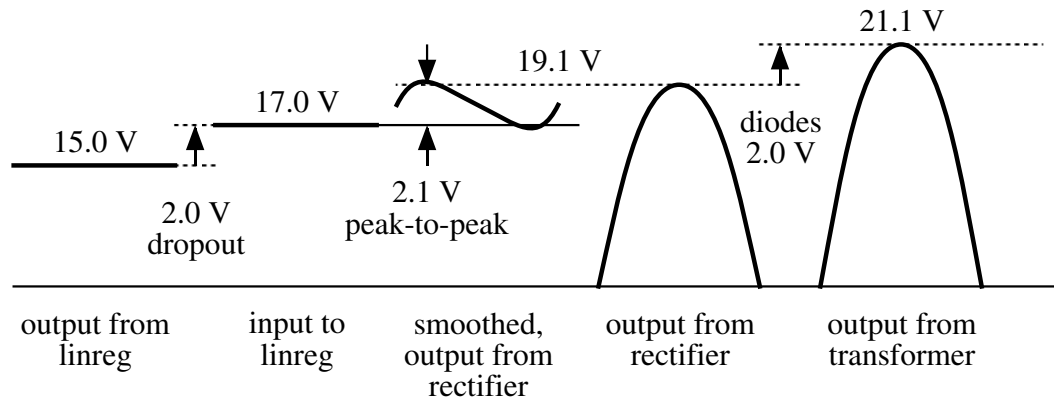

Figure 13. Voltage waveforms at different points in the power supply with linear regulator (linreg), working back from the output.
- (a) As usual, work back from the output to the input. The voltages at different points are illustrated in figure 13.